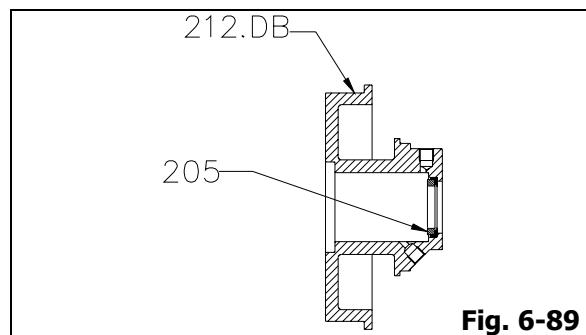

Fig. 6-89
1. Coat atmospheric end mechanical seal (205) seat surface in stuffing box cover (212.DB) with oil. Carefully place the stationary portion of atmospheric end mechanical seal (205) into position and press gently by hand until the shoulder of the seal is fully seated against the stuffing box cover (212.DB). Make sure that the lapped face of seal is facing outside (Fig. 6-89).